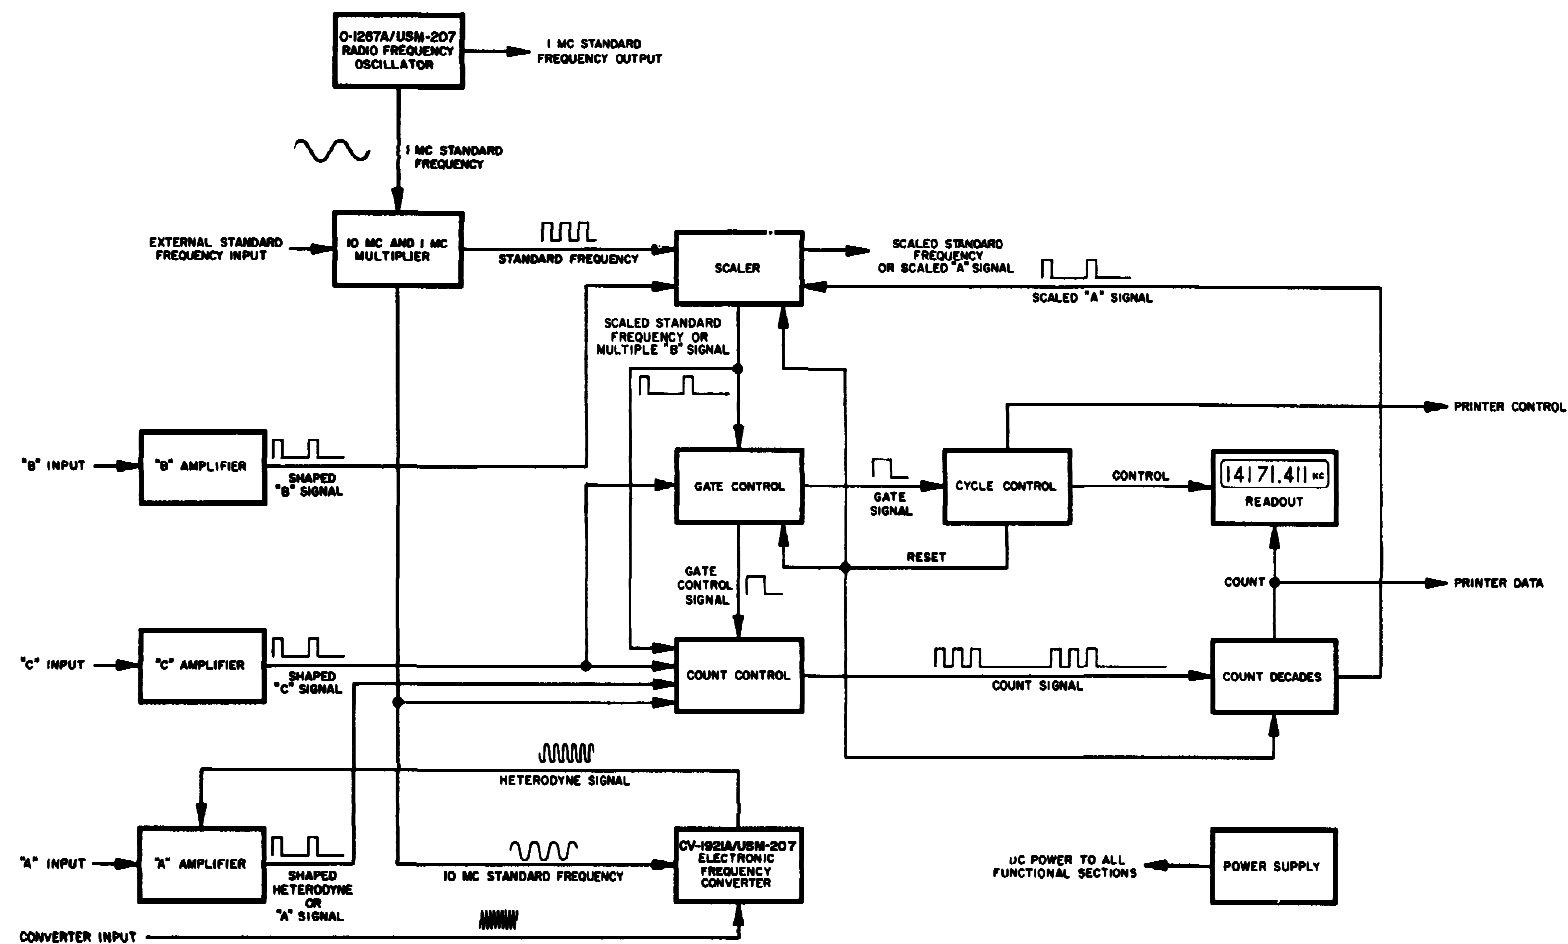

Figure 4-1. Digital Readout Electronic Counter AN/USM-207A Overall Functional Block Diagram.
c. **LISTING PROBABLE FAULTY FUNCTION.** — A complete understanding of the equipment operating principles is especially important at this phase of the trouble-shooting procedure. With all information about the problem in mind, formulate a number of "logical choices" as to the cause and likely location of the malfunction. Confine each choice to a functional section of the equipment as shown in figure 4-1.
Figure 4-1 is the overall functional block diagram of the counter. The individual functional sections are constructed on one or more plug-in printed circuit boards. Any of these printed circuit boards may be removed from the counter for purposes of adjustment, trouble shooting, and replacement of parts. Basic operation of the counter is shown in figure 4-2. An overall logic diagram is provided in figure 4-3. To make a measurement, requires two types of information: a count signal, and a gate control signal. These two signals may be generated within the instrument or they may be supplied from outside sources. The type of measurement the counter will make depends upon the relationship of these two signals. However, in any function the instrument counts the count signal for a period of time determined by the gate control signal. Routing of these signals within the instrument is accomplished by logic circuits. These logic circuits are controlled by the operator by means of the front panel FUNCTION, time base, and SENSITIVITY switches. The output of each switch is a select voltage which operates one or more logic circuits in the counter. These voltages are referred to as F, T, and S select terms and are defined in table 4-1.